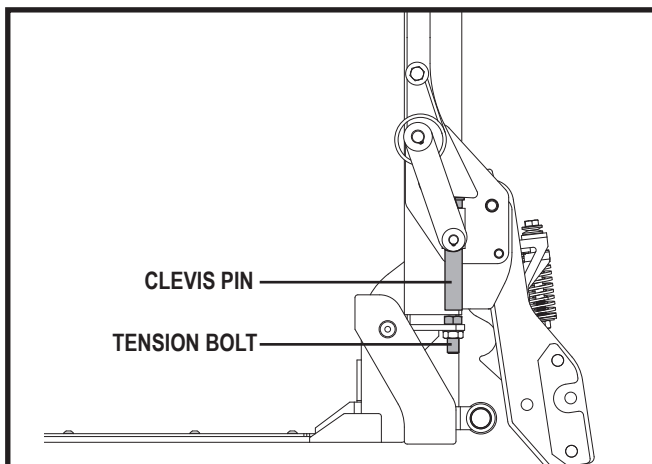

Figure 5. Tension Bolt and Clevis Pin Adjustment
9. Adjust the tension bolt on the H-frame that actuates the lock-down arm clevis pin. This adjustment should compress the spring on the lock-down arm pivot foot to ensure proper securement of the product when in the stowed position. **See figure 5.**